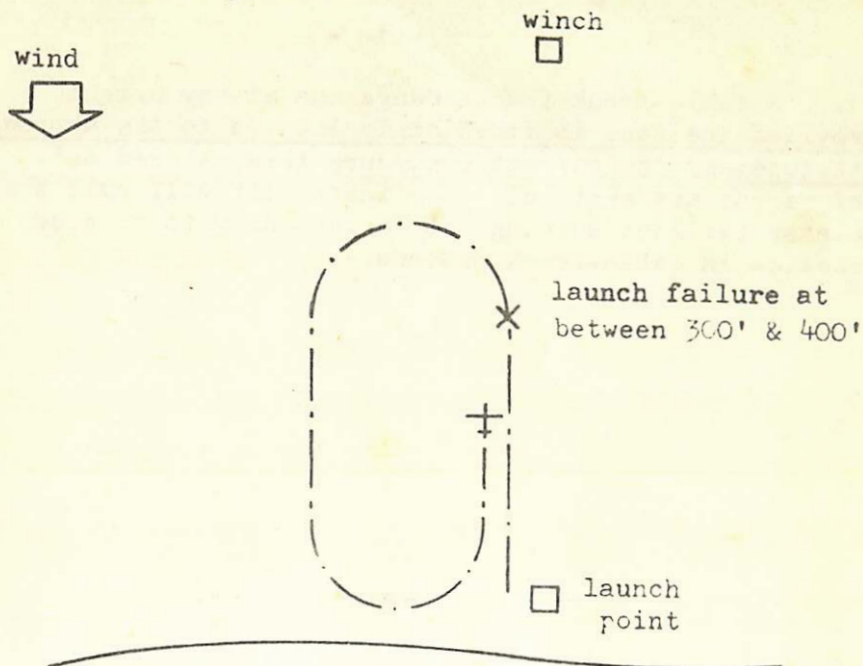

Fig 12
- (c) Between 300 and 400 feet turn  $180^{\circ}$  (away from other flight) onto the downwind leg, then bearing in mind that the minimum permitted height downwind is 200 feet turn thro'  $180^{\circ}$  in the same direction as before onto final approach. See Fig. 12.